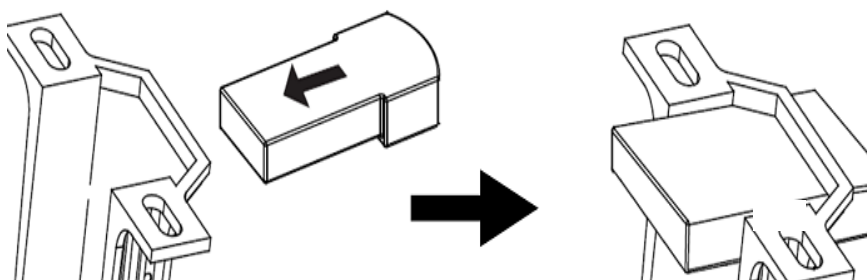

Fig. 13
12. Carefully insert the Remote Receiver above the hanger ball in the remainder spacing in the mounting bracket. Take care not to damage or loosen any of the wiring. **(Fig. 13)**